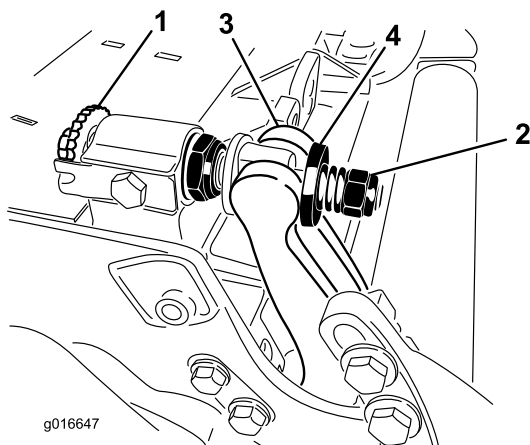

Figure 32
1. Turn the bedbar-adjuster screws counterclockwise to back the bedknife away from the reel (Figure 32).
2. Back out the spring-tension nut until the washer is no longer tensioned against the bedbar (Figure 32).